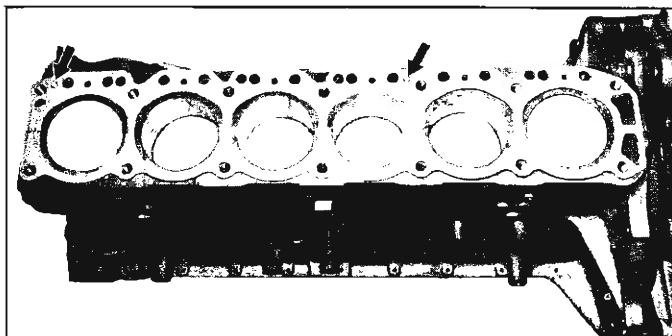

Fig. 4L—Installing Head Gasket
2. Place the gasket in position over the dowel pins with the bead up (fig. 4L).